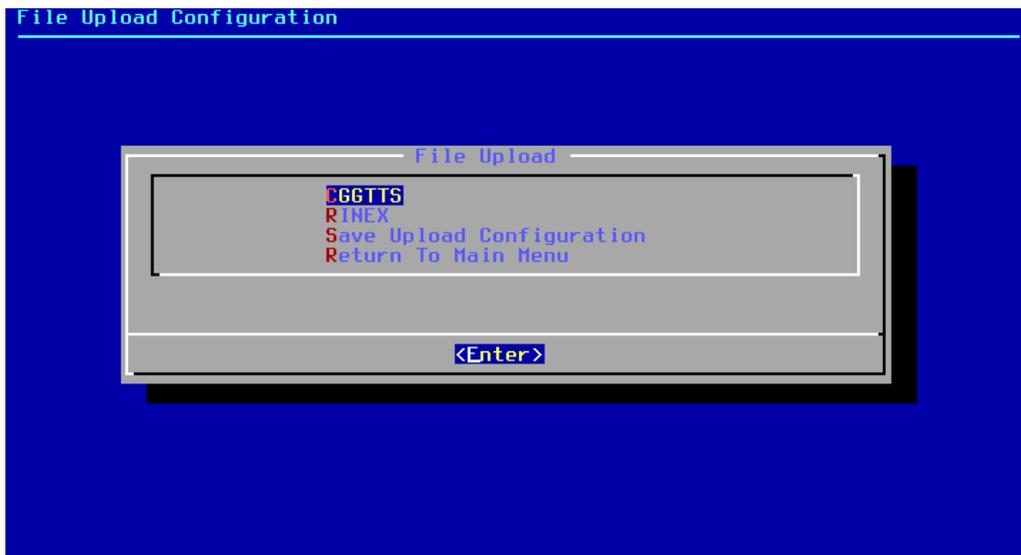
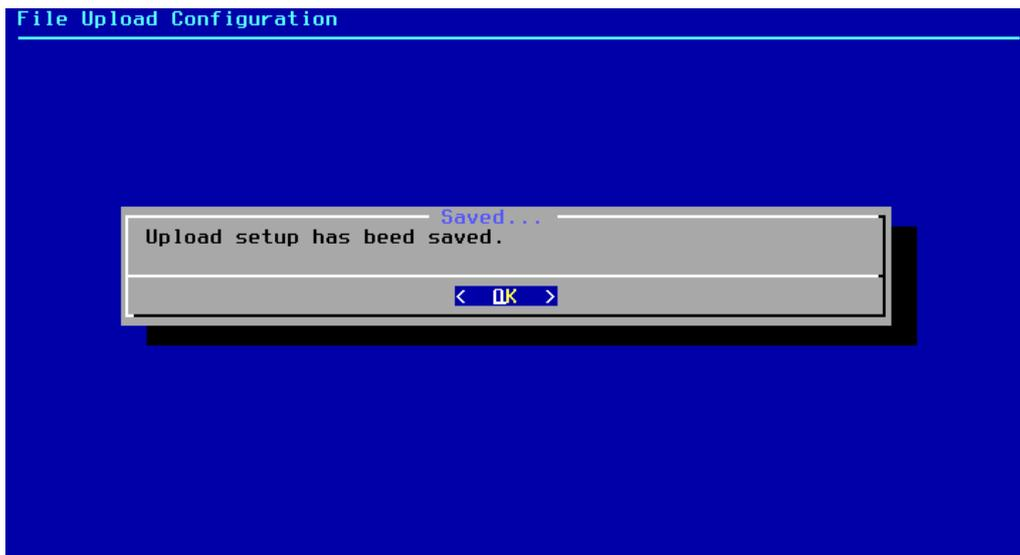

Figure 25: Automatic data upload menu
Figure 29: Automatic data upload configuration saving
- Select RINEX (fig. 25)
7. Select "Save Upload Configuration" (fig. 25 and fig. 29)